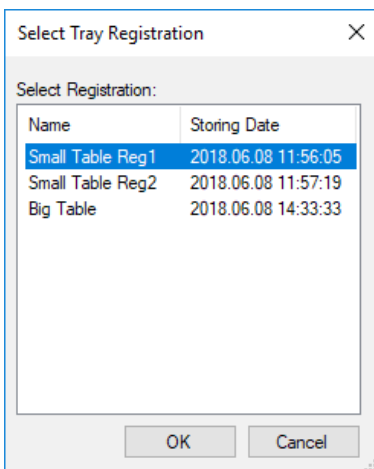

Fig. 39 Tray Registration Selection
*Tray-Position Registration* is used to link a given XYZ position in the grid to a given Tray ID. *Tray-Position Registration* defines whether the Tray-Position Registration last loaded in the Server application, window XYZ, will be used for the measurement = option *Current*, or whether the registration stored in the database will be selected for the measurement by the user = *Change* option. After changing to option *Change* or clicking the *Select* button the selection editor (Fig. 39) is opened. The editor shows all stored registrations and allows selection one of them.